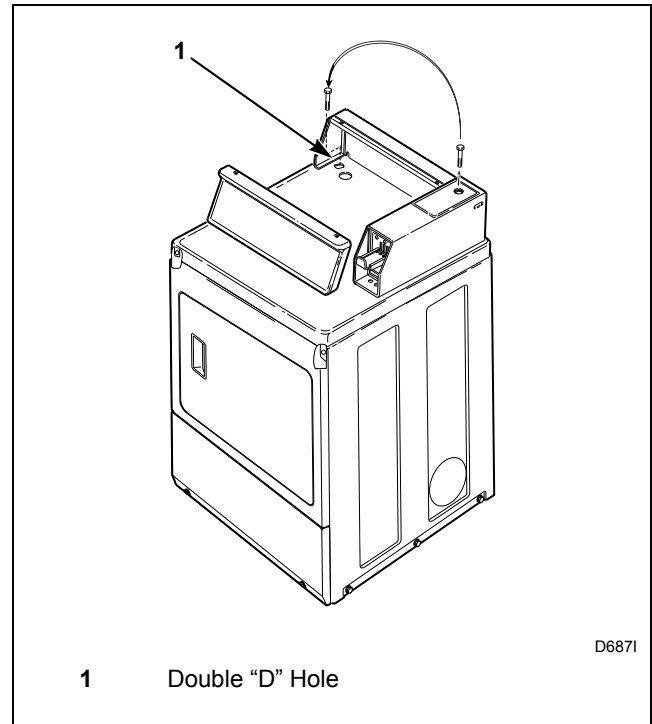

Figure 33
1. Remove the Phillips head screw from service door. (Refer to *Figure 33*.)